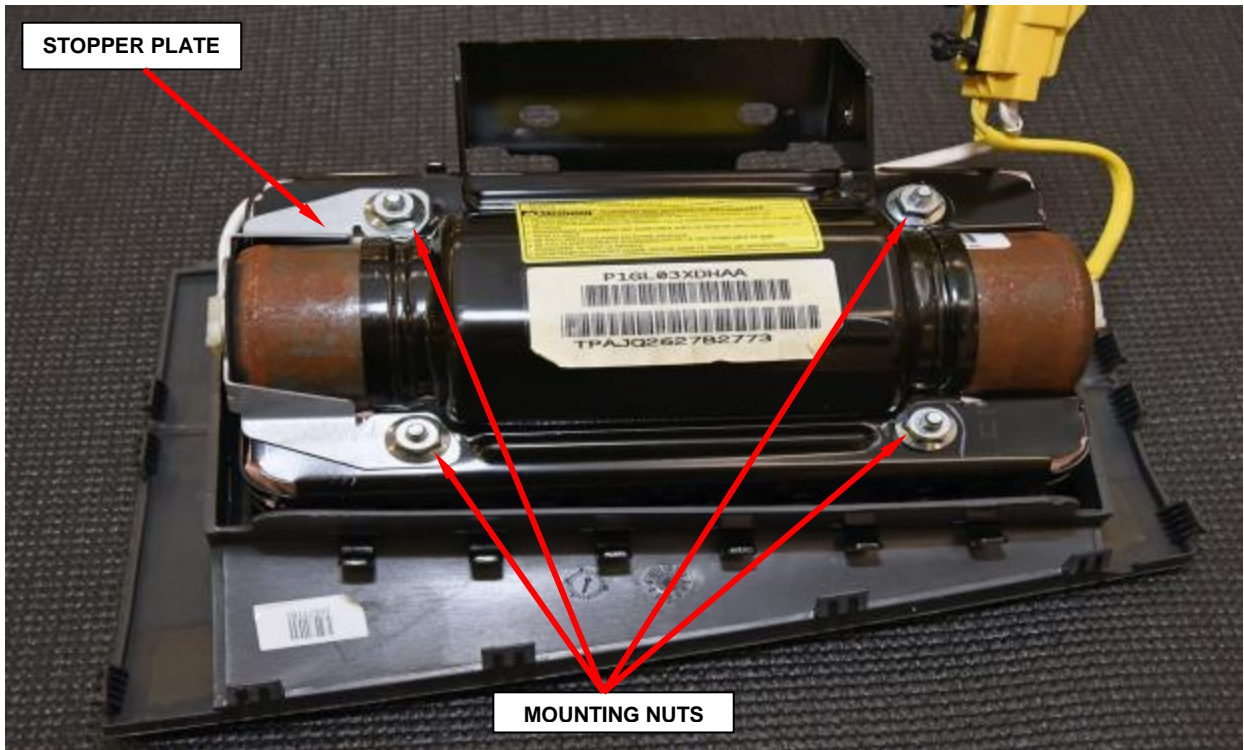

Figure 36 – Mounting Nuts and Stopper Plate
- d. Remove and **discard** the four mounting nuts and remove and save the stopper plate from the passenger airbag module (Figure 36).
- g. Install the stopper plate to the airbag module (Figure 36).
- h. Install the four **NEW** mounting nuts to the airbag module and tighten to 53 in. lbs. (6 N·m) (Figure 36).